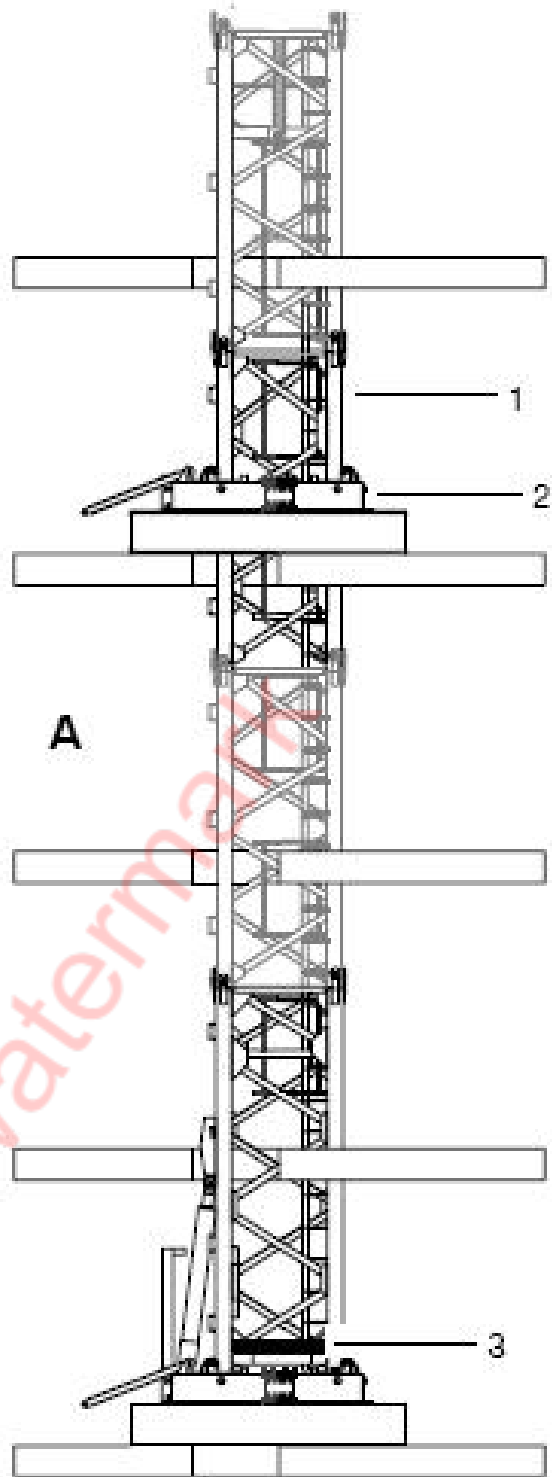

Figure 1
In order to avoid any incident during telescoping and operating the crane, install a floor (3) onto the lower collar of the basic mast (Detail A – Figure 1).